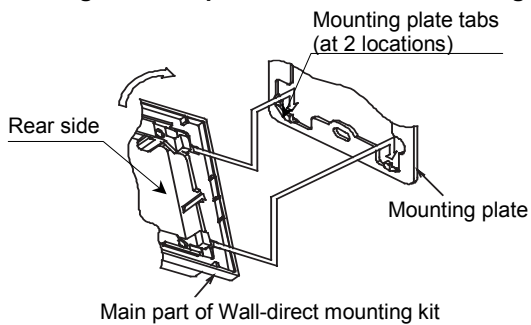

Figure 9. Installing the main part of Wall-direct mounting kit
- 2) Install the main part of the Wall-direct mounting kit on the mounting plate. (See Fig. 9.)
- 2) Install the main part of Wall-direct mounting kit on the mounting plate. (See Fig. 9.)